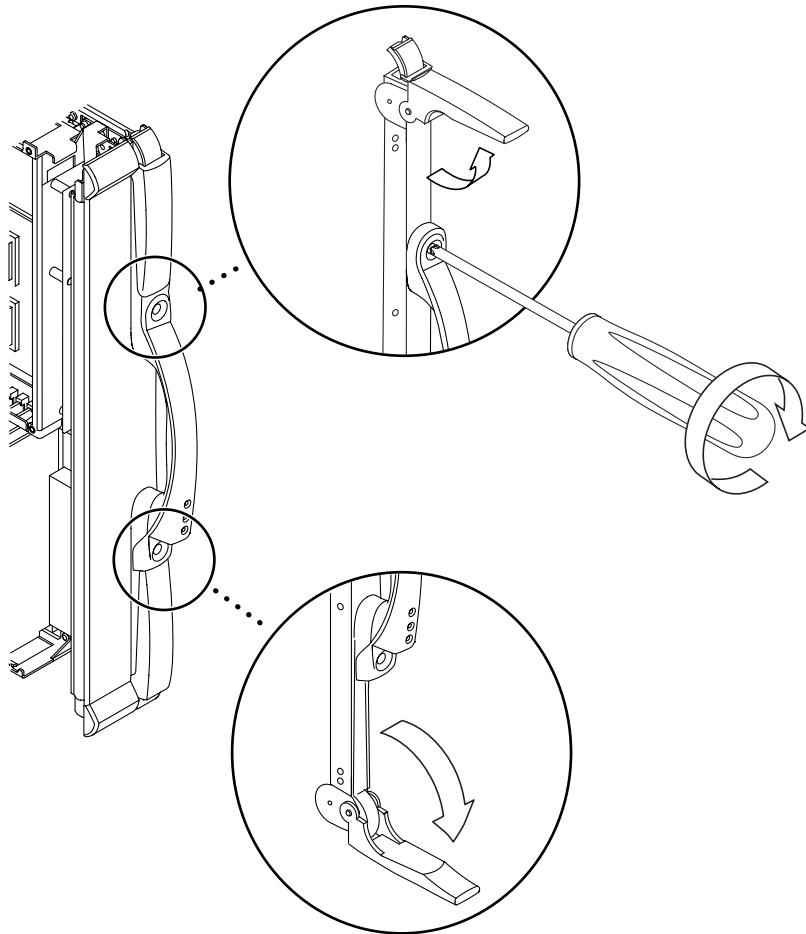

FIGURE 8-6 Unlocking the Ejector Levers
4. **Unlock the ejector levers on the CPU/Memory board with a Phillips No. 2 screwdriver (FIGURE 8-6).**
5. **Manually rotate the ejector levers until they are 90 degrees straight out from the board (FIGURE 8-6).**
2. **Make sure that the ejector levers of the CPU/Memory board are in the open position. They should be 90 degrees straight out from the board (FIGURE 8-6).**